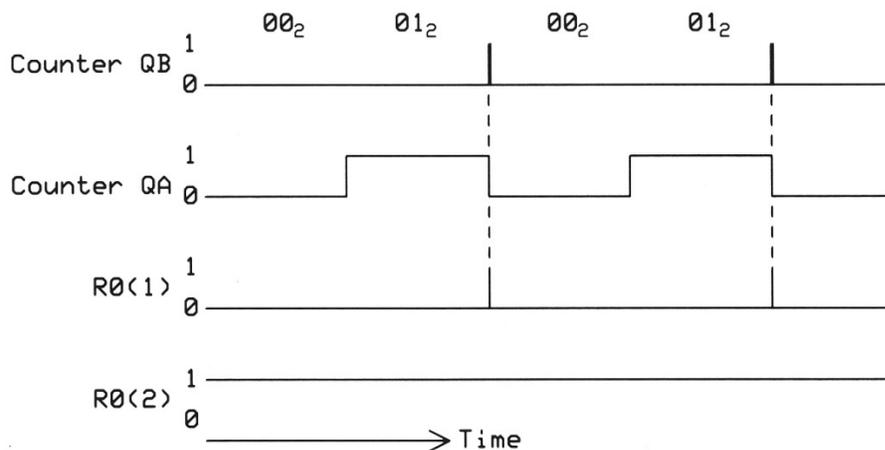

Figure 3.13.
Turn on power to the breadboards. How does the display behave? You should see the numerals alternate 0-1-0-1-0 and so on. The QB output changes from a logic-0 to a logic-1 state as the counter outputs change from 0001_2 to 0010_2 , or from 1 to 2. The QB output exists as a logic-1 only for an instant, which is enough to reset the counter back to 0000_2 . **Figure 3.13** shows the timing relationship between the counter output and the reset inputs R0(1) and R0(2). The QB output remains a logic-1 for only a few nanoseconds (billionths of a second), so even though the counter reaches 0010_2 , you never see a 2 on the display.